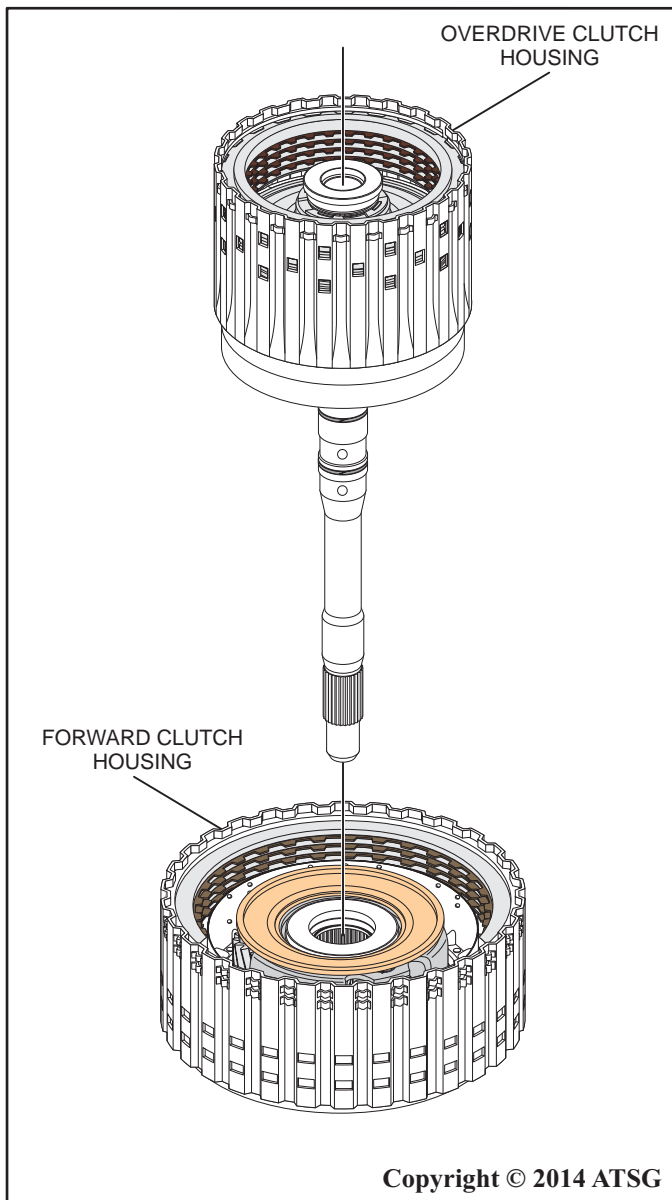

Figure 94
54. Install the overdrive clutch assembly into the forward clutch housing and planetary carrier as shown in Figure 94. Make sure the assembly is fully seated into the front planetary carrier.